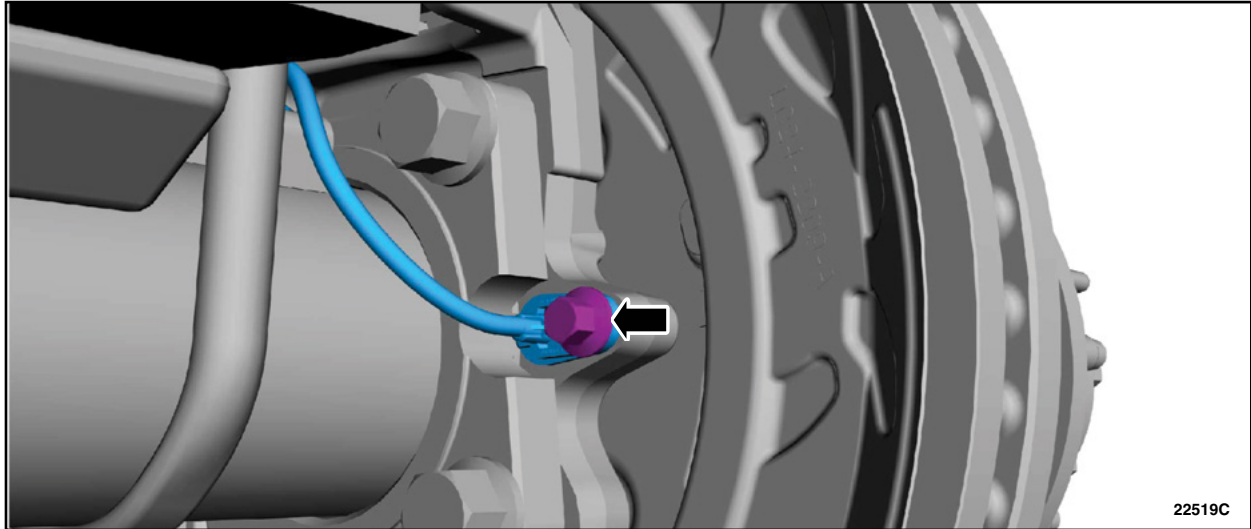

FIGURE 18
19. Install the rear wheel speed sensor, spacer and bolt on both sides of the vehicle. See Figure 18.